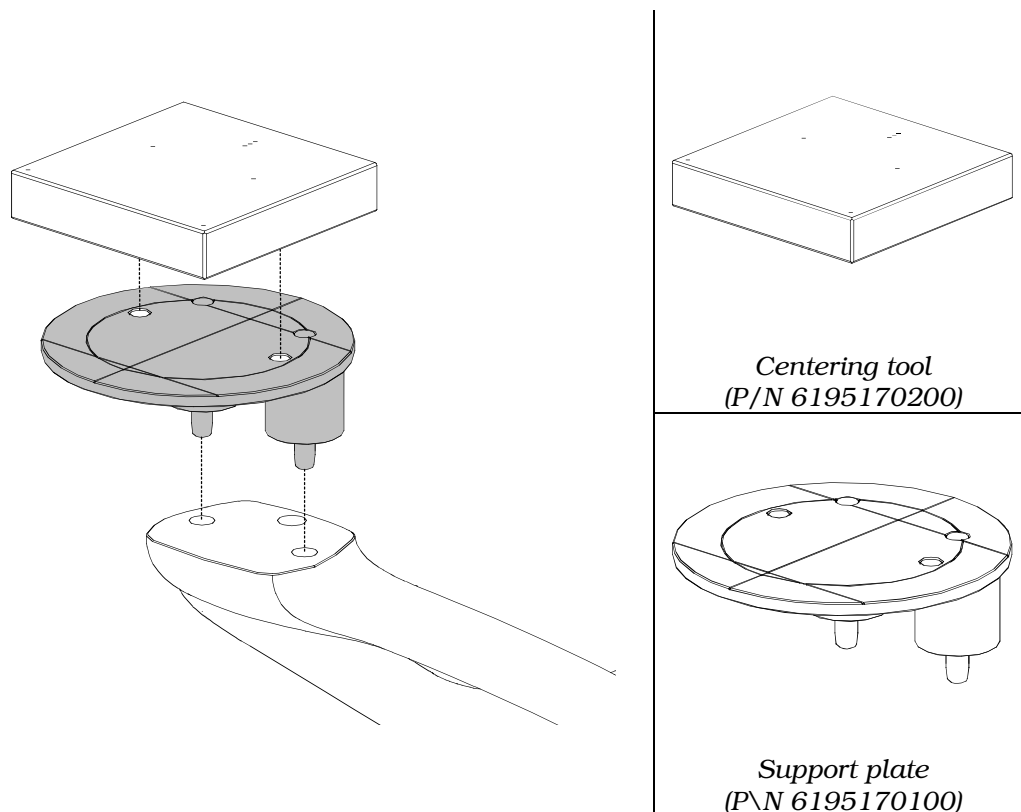

Figure 6-15: Support plate and centering tool positioning
2. Place the centering tool (P/N 6195170200) on the support plate (P/N 6195170100) and place it on the chin rest (Figure 6-15). Set 60kV - 6mA.
4. Press "Patient entrance" (6) . Press exposure button and wait the end of acquisition.